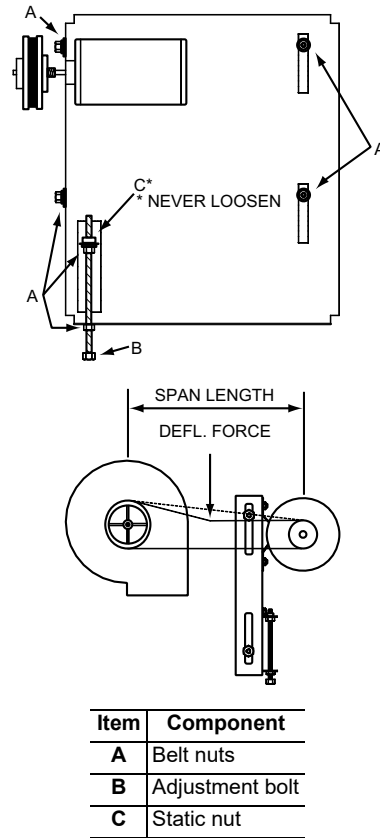

Figure 26: Belt adjustment
1. Loosen the six belt nuts at the top and bottom. See Figure 26
3. Use a belt tension checker to apply a perpendicular force to one belt at the midpoint of the span shown in Figure 26. A deflection distance of 4 mm (5/32 in.) is obtained.